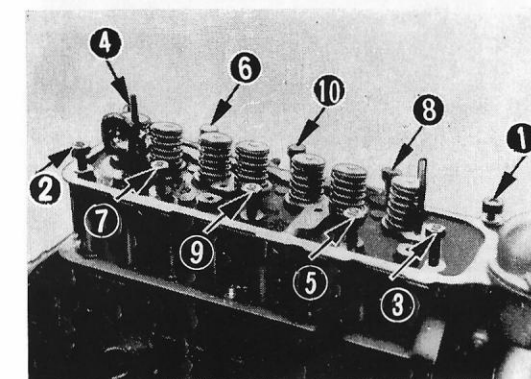

Fig. 4-14
- (17) Remove the thermostat housing (1) and take out the thermostat unit.
- (18) Remove the valve rocker shaft assembly (1).
- (19) Pull out the Push rod (2).
- (20) Remove the cylinder head and cylinder head gasket. The cylinder head clamping bolts should be turned loose in the sequence illustrated in Fig. 4-14.
- (21) Remove the tappets.
- (22) Hold the engine vertically with the flywheel (1) side down.